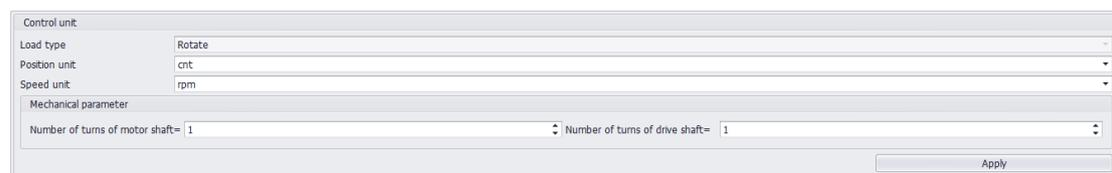

Figure 3-9 User units
2. Set parameter unit for motion control parameters, including position unit and velocity unit, and configure mechanical gear ratio, as shown in Figure 3-9: